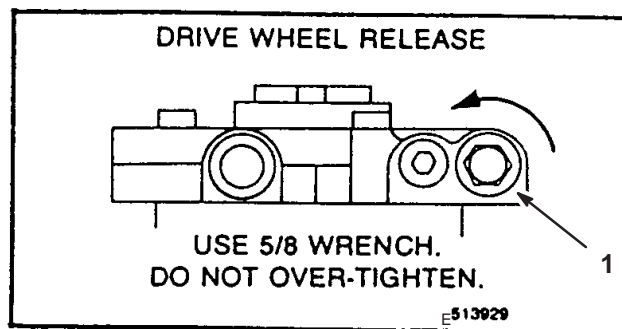

Figure 25
2. Rotate the by-pass valves counterclockwise 1 turn to push. This allows hydraulic fluid to by-pass the pump enabling the wheels to turn (Fig. 25).
1. Rotate the by-pass valves clockwise 1 turn to operate machine (Fig. 25).